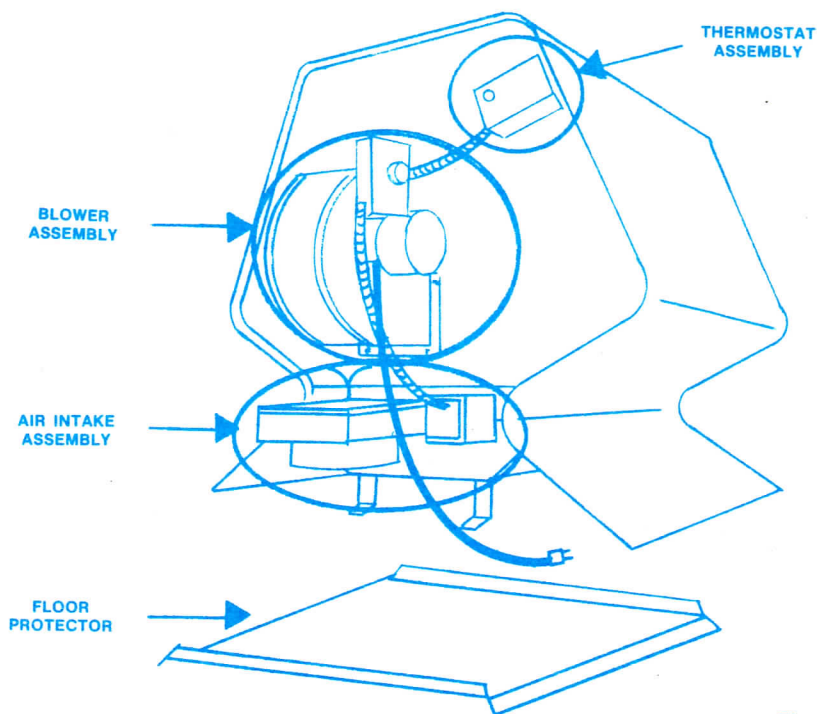

Figure 1
- Fasten AIR INTAKE ASSEMBLY to rectangular opening on the lower center portion of unit. (See figure 1.) With the butterfly spindraft control facing up and the 6" round flange for the exterior air intake facing down, use the four #10 by 1/2" sheet metal screws to secure the air intake enclosure to the stove. Use a 5/16" wrench or socket to tighten screws. The Air Intake Assembly must be flush with the stove in order to assure air tight construction and unwanted air from entering the unit.
- Insert the 5" thermostat probe through the stand off bracket into the unit. (See figure 1.) Do not tighten stand off bracket onto the thermostat probe at this time. Align the blower holes and fasten the BLOWER ASSEMBLY onto the unit using four 1/4" by 1" hex head bolts. (See figure 1.) Tighten firmly, but do not overtighten. Overtightening will bend the tinnerman clips.
- Press the thermostat assembly flush with the stand off bracket. Align the thermostat so that the short end of the thermostat is parallel with the side of the stove. (See figure 1.) Tighten the set screw on the stand off bracket onto the thermostat probe. Do not overtighten. Overtightening may result in damage to the thermostat.
Your manual spin draft control is located in the back of the unit beneath the blower, on top of the air intake assembly (see figure 1, page 3.) One to two turns open will give you an extended overnight efficient burn. Three to four turns open will allow more flame in the unit and a hotter burn.